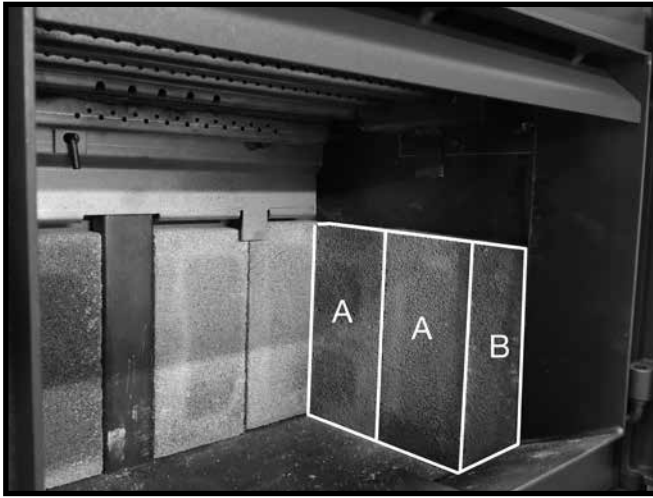

Figure 26: Lower side wall firebricks in place.
5. Stand another "A" brick beside the first one followed by a narrow "B" firebrick (Figure 26).